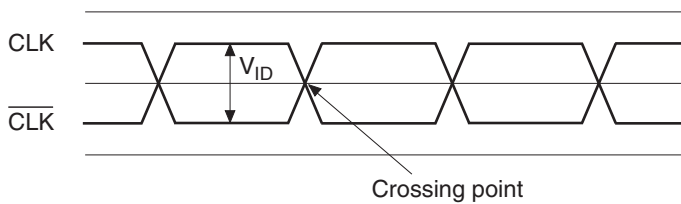

Figure 1 Differential input levels
2. Differential cross point voltage is expected to track variations of V_{DDQ} and is the voltage at which the differential signals must be crossing. (See figure1)